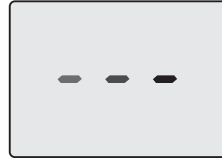
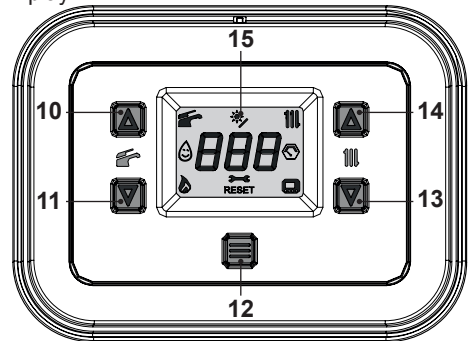

Fig. 7.14
Fig. 7.15
- Electrically power the boiler by switching on the double pole isolation switch. The LCD will display, the    symbol (Fig. 7.14).
- Press the 12 key for 5 seconds until both  and  symbols appear on the display Fig. 7.15.
- Switch off the boiler by pressing the 12 (Fig. 7.15) key for 5 seconds until the  symbol appears on the LCD display (Fig. 7.14).
Press the reset key on the boiler control panel 12 (Fig. 7.15) to reset its functioning.